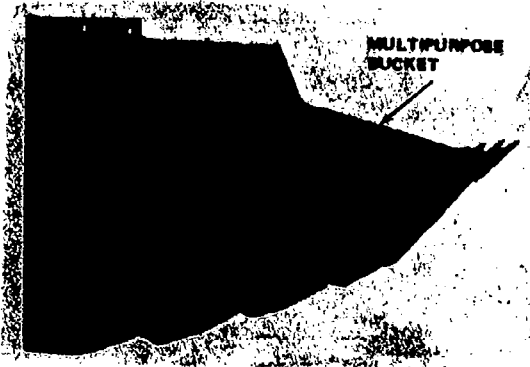

Fig 4-31. Drott front end attachment.
a. General. The 2-piece, hinged, Drott 4-in-1 front-end attachment (fig 4-31) makes it possible to use the Case MC 1150 scooploader and the 72-31MP Terex tractor as a skid shovel, bulldozer, scraper, or clamshell. As a skid shovel, the tractor is capable of breaking out stubborn materials with an applied force three times the lifting capacity of the tractor. As a bulldozer, the clam is opened, revealing an efficient bulldozer with radius control moldboard for smooth dirt-rolling action. By opening the clam slightly, the tractor becomes a scraper, and it is possible to control a smooth slicing action designed to accurately strip sod, topsoil, or clay. With positive hydraulic action it is possible to operate the tractor as a clamshell for removing stumps and trees and carrying them to trucks. This highly versatile attachment is standard equipment on the Case MC 1150 scooploader and the 72-31MP Terex tractor.